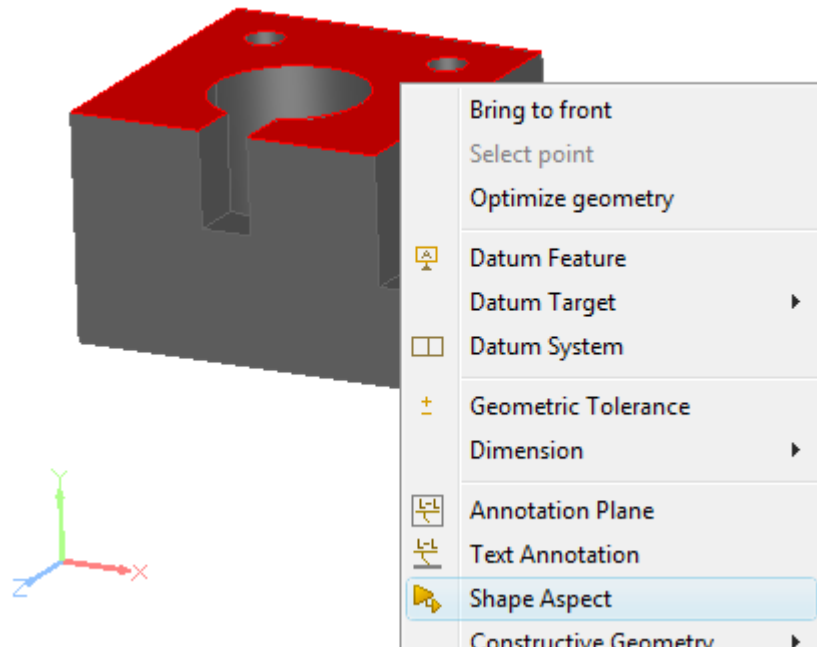

Figure 1. Selected plane and context sensitive menu item to create a shape aspect
- Right click and select the  **Shape Aspect** item in the appeared context sensitive menu (see Figure 1).